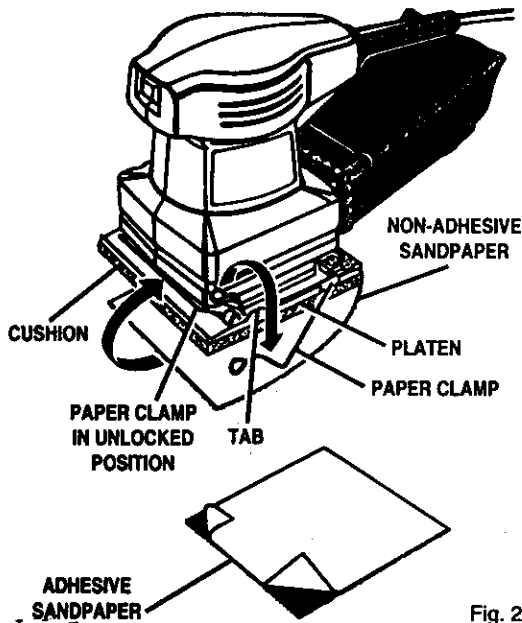

Fig. 2
See Figures 2 and 3.
See Figure 2.
- Position sandpaper, making sure front edge of sandpaper is aligned with front edge of the cushion, then carefully press sticky side of sandpaper on cushion. **Note:** Sandpaper must be aligned with the front edge of the cushion for proper functioning of the flush sanding feature. See Figure 2.